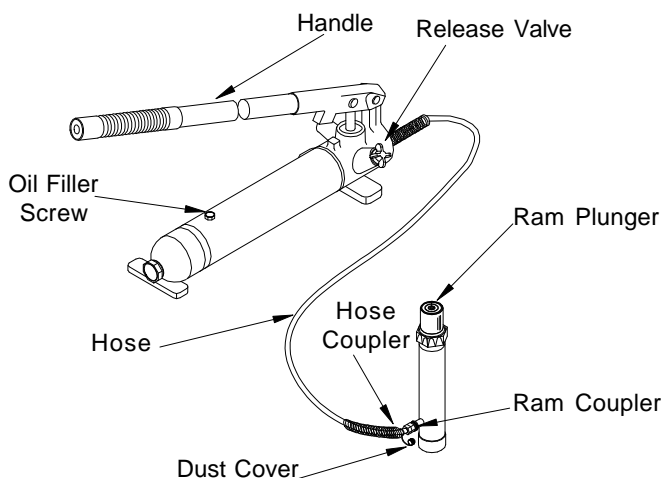

Figure 1 - Model No. 50364 & 50347 Components
### BEFORE USE (Refer to Figure 1 above)
1. With ram fully lowered, set pump unit in its normal, level position. Locate and remove oil filler screw (see Figure 1).